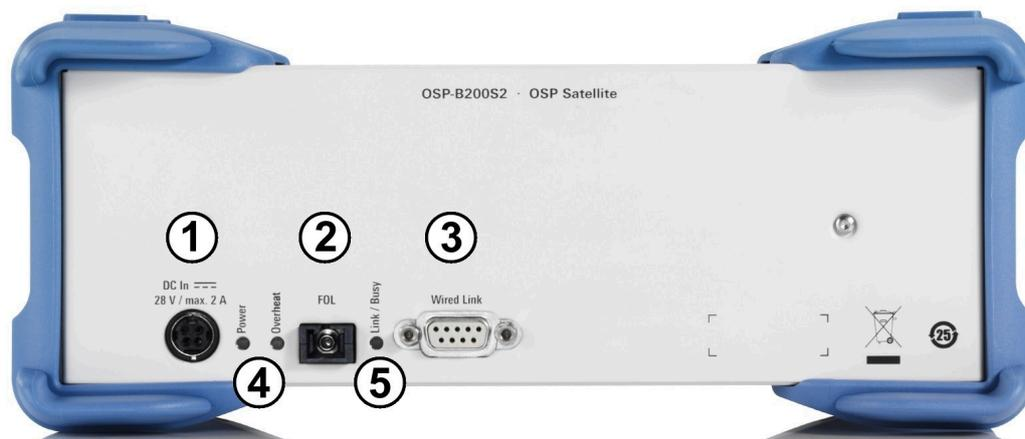

Figure 2-11: Rear view of the R&S OSP-B200S2 (2HU)
The link connectors (labeled (2) and (3) in Figure 2-11) allow choosing either an electrical or an optical control connection.